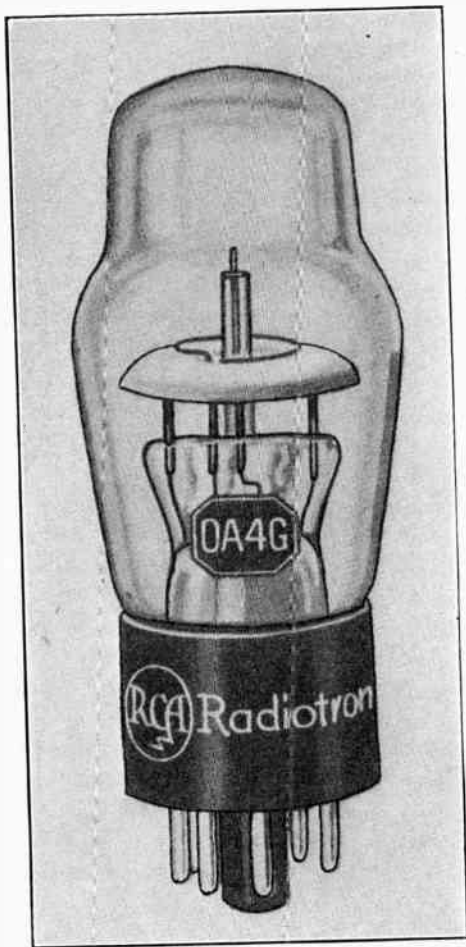

FIG. 1
THE 0A4-G is a cold-cathode glow-discharge tube of the starter-anode type designed for use primarily as a relay tube in carrier-actuated equipment. The 0A4-G consists of a cathode (K), starter-anode (P₁), and anode (P₂) arranged as shown in the photograph of Fig. 1; socket connections and symbolic representation of the tube are shown in Fig. 2.